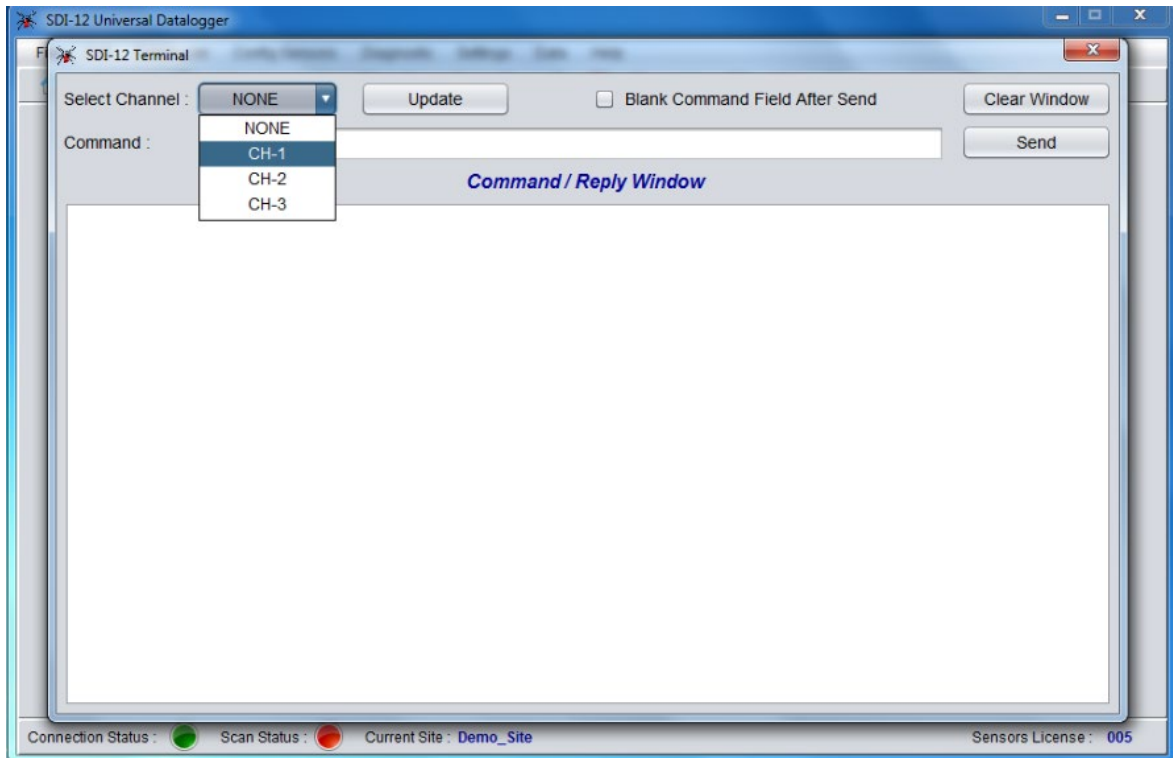

Figure 7-9 SDI-12 Terminal Window
- 8 In “SDI-12 Terminal” window (figure 7-9), select appropriate Channel number from the drop down list and then click “Update”.